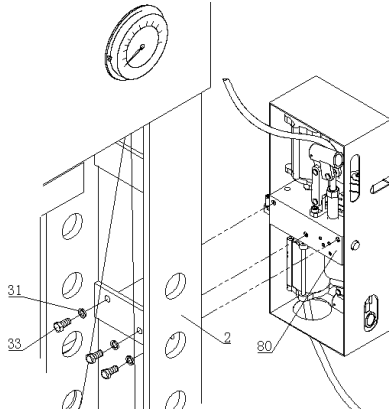

Fig. 1
Fix the pump assy. (80) to the body frame by using hex bolt M12X25(33) and spring washer Ø12 (31). (refer to fig.1)